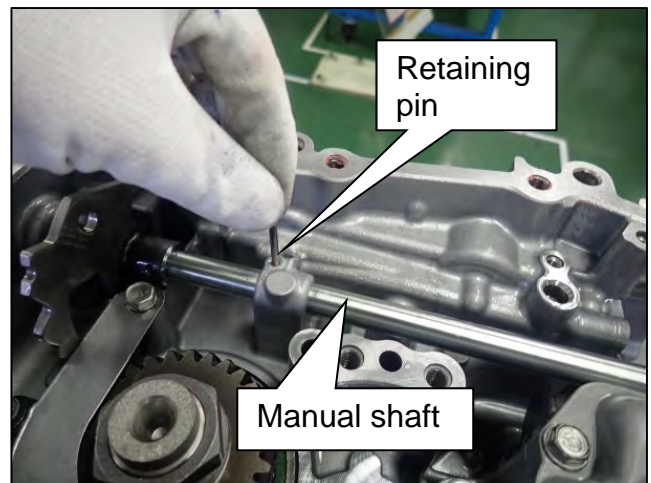
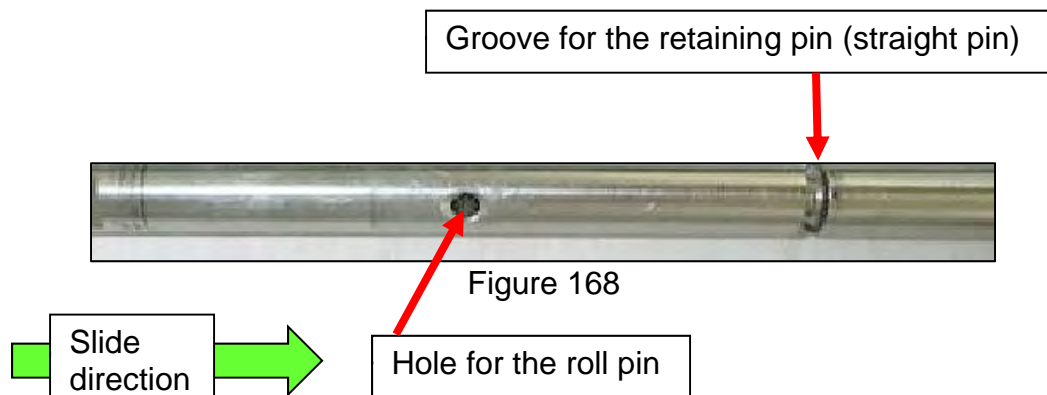

Figure 167
Figure 168
132. Install the original retaining pin, as shown in Figure 167.
- Align the manual shaft groove (Figure 168) to allow the retaining pin (Figure 167) to go through completely.